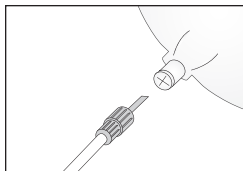

Figure 2-1 Screw Tip Into Container
- ▶ **If you are using the Infinity Safety Screw Spike Set with a vented bottle or pre-filled bag:** Remove protective cover from tip, then insert tip into formula exit port of container. If using the Infinity Safety Screw Spike Set, secure the tip by tightly screwing threaded components together. (Figure 2-1).